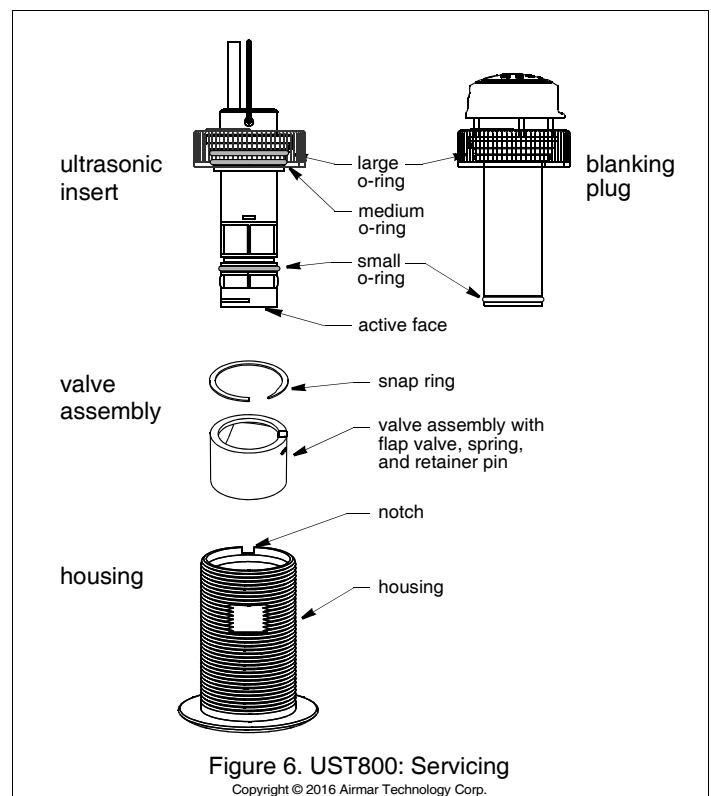

Figure 6. UST800: Servicing
5. The o-rings must be intact and well lubricated to make a watertight seal. After the marine sealant cures, inspect the o-rings on the ultrasonic insert (replace if necessary) and lubricate them with the silicone lubricant supplied (Figure 6 or 7).
The o-rings must be intact and well lubricated to make a watertight seal. Inspect the o-rings (replace if necessary) and lubricate them with the silicone lubricant supplied or petroleum jelly (Vaseline®) (Figure 6 or 7).
2. Grasp the pull ring and remove the ultrasonic insert with a slow pulling motion (Figure 6).
3. Slide the blanking plug into the housing (Figure 6). Seat it into place with a pushing twisting motion until the key fits into the notch. Screw the cap nut in place. **Hand tighten** only. Do not over tighten.
Aquatic growth will seriously affect the performance of the ultrasonic insert. Clean the active face with a dull putty knife, being careful to avoid scratching the surface (Figure 6 or 7). If fouling is severe, lightly wet sand the active face with fine grade (#320) wet/dry paper.
O-rings must be free of abrasions and cuts to ensure a watertight seal. Install the o-rings on the ultrasonic insert as shown (Figure 6 or 7). The remaining o-rings are placed in similar positions on the blanking plug.
1. The o-rings must be intact and well lubricated to make a watertight seal. On the blanking plug, inspect (replace if necessary) and lubricate the o-rings with silicone lubricant or petroleum jelly (Vaseline®) (Figure 6).
3. Remove the snap ring from the valve assembly using a screwdriver to pry the end of the ring free (Figure 6).
6. Clean, repair, or replace the valve assembly so the flap valve moves freely and seats against the valve housing (Figure 6).